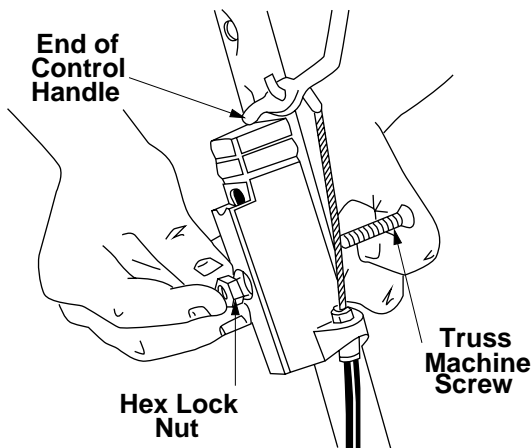

Figure 7
4. Holding the control box near the left side of the upper handle (control box must be inside the handle), hook the "Z" end of the brake cable into the control handle from the **outside** to the **inside**. See Figure 6 and Figure 7.
5. Place the control box on the upper handle just below (touching) the end of the control handle as shown in Figure 7. Secure with hardware removed in step one by placing hex lock nut into the indent on the inside of the control box. Screw the truss machine screw into the hex lock nut.